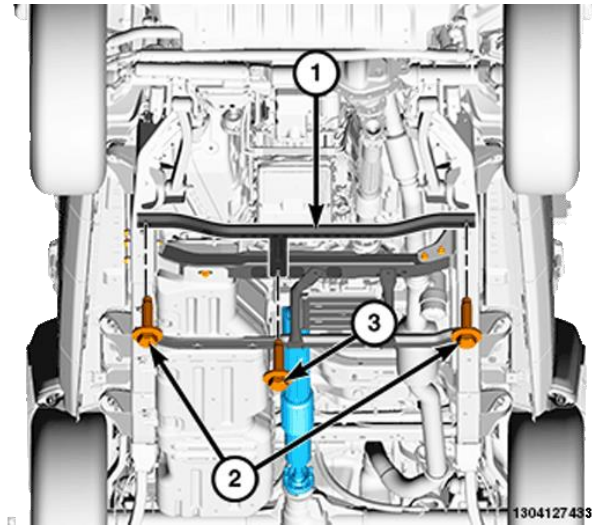

Figure 5 – Front Reinforcement Crossmember
11. Remove the front reinforcement crossmember bolts (2 and 3) (Figure 5).
19. Install the front reinforcement crossmember and bolts (2 and 3) (Figure 5). Tighten the bolts (2) to 75 N·m (55 ft. lbs.), and bolts (3) to 65 N·m (48 ft. lbs.).